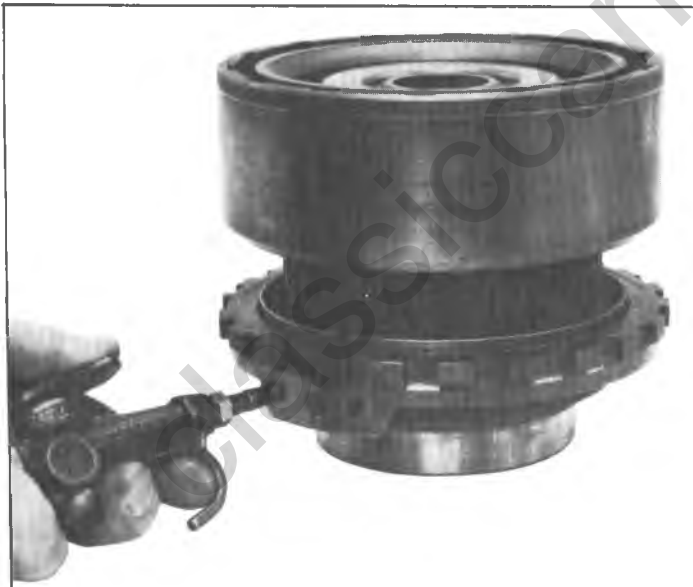

Fig. 96T--Air Checking Direct Clutch Assembly
14. Place direct clutch assembly over center support and air check operation of direct clutch (fig. 96T).